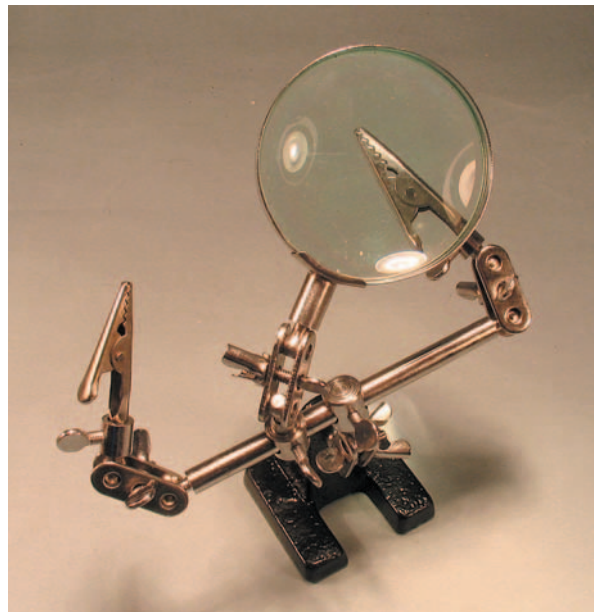

Figure 1.13 Third Hand vise.
Another very useful tool is the 'Third Hand' vise (Figure 1.13). This acts as a companion to your larger vise. The larger vise holds a connector, the Third Hand (TH) holds the wire being soldered to the connector. The TH unit is small – it's got a mini-vise-type weighted base and two movable, adjustable arms, with alligator clips at the ends of the arms.